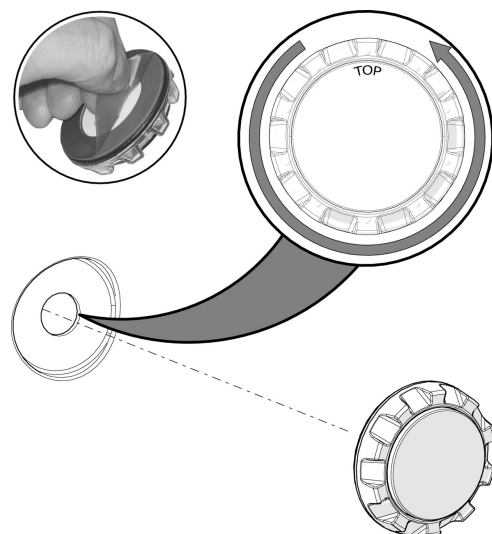

Figure 439. Remove the protective tape and rotate the light/turn signal until the text "TOP" is pointing straight upwards.
2. Rotate the light or turn signal until the text TOP is pointing straight upwards and position the turn signal on the rear cover. Press it against the rear cover until the double sided tape sticks on to the cover. See fig. 439.